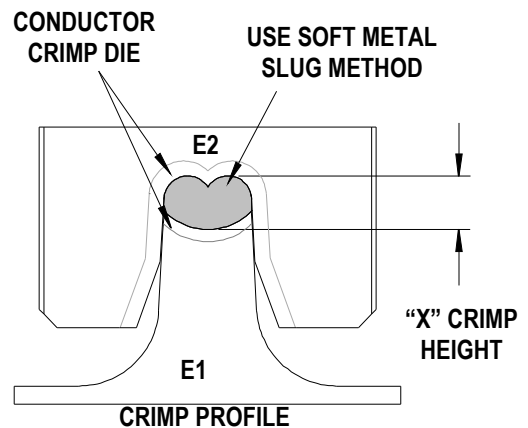

Figure 2
Note: To process this terminal, assemble spacers with cutoff tooling as shown in Figure 2.
3. The recommended method of measuring the crimp height of the conductor dies is the soft metal slug method, (See Figure 2).